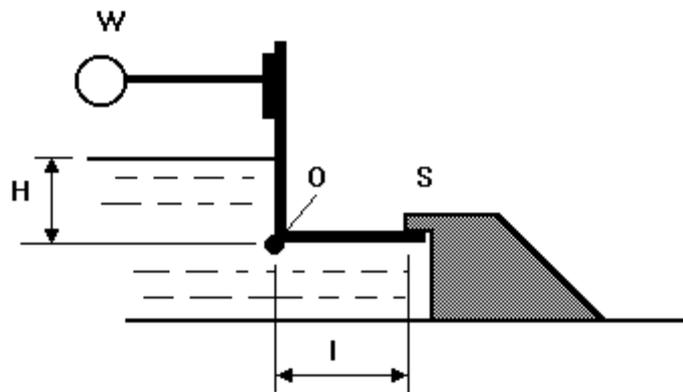

Fig.13
5. Fig.13 shows an L shaped spill gate that operates by pivoting about hinge O when the water level in the channel rises to a certain height  $H$  above O. A counterweight  $W$  attached to the gate provides closure of the gate at low water levels. With the channel empty the force at sill S is 1.635 kN. The distance  $l$  is 0.5m and the gate is 2 m wide.